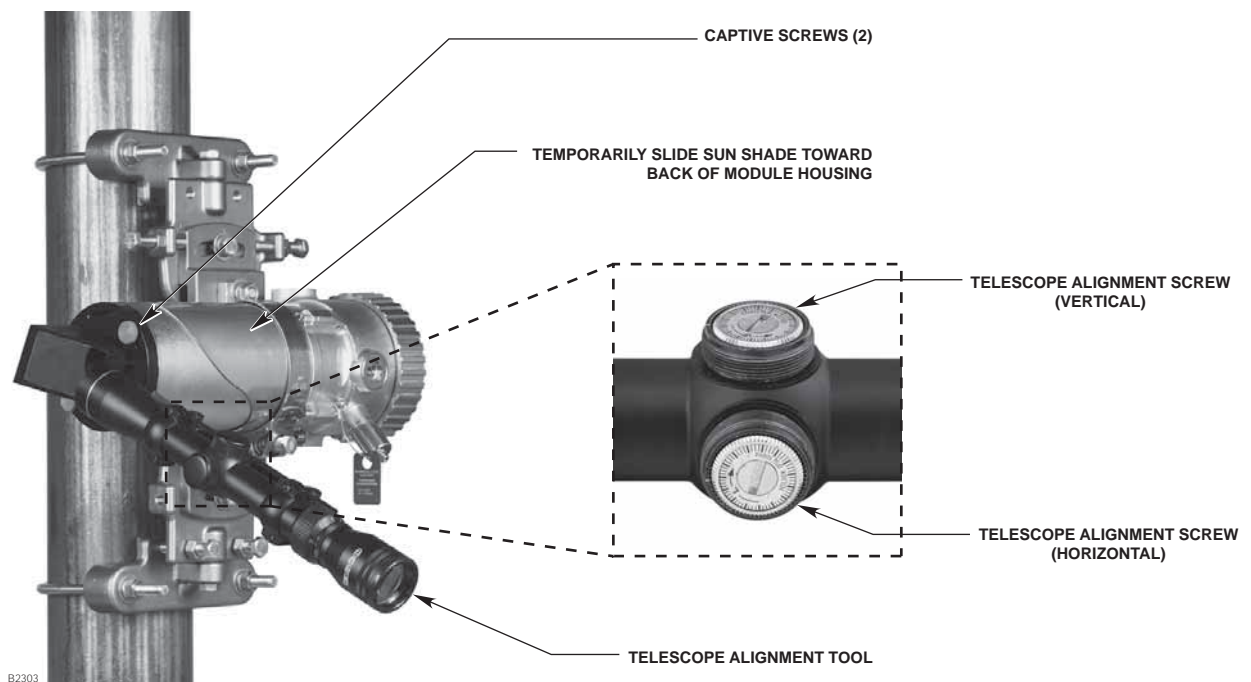

Figure 18— OPECL with Telescope Alignment Tool Installed
6. Install the Telescope Alignment Tool onto the transmitter module by inserting the captive thumbscrews into the threaded holes on the faceplate. See Figure 18. Ensure that the telescope is properly attached, that the eyepiece is accessible, and that the thumbscrews are completely tightened.